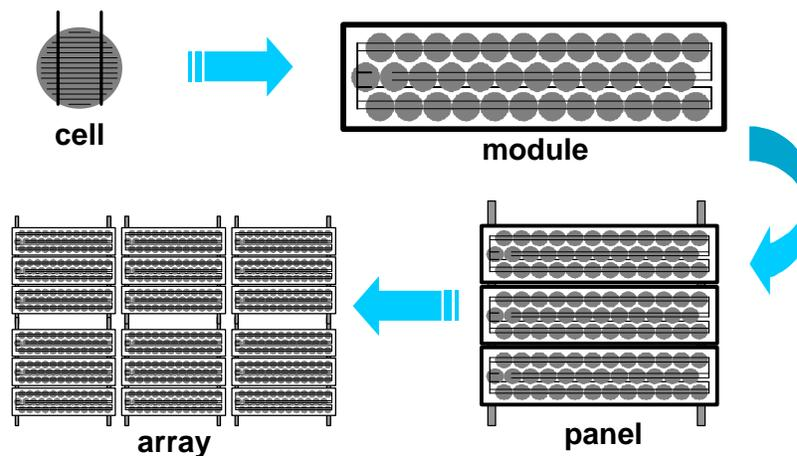

Figure 2. Photovoltaic cells, modules, panels and arrays.
| FIGURE 2. PHOTOVOLTAIC CELLS, MODULES, PANELS AND ARRAYS | 3 |
- A. Photovoltaic cells are connected electrically in series and/or parallel circuits to produce higher voltages and/or currents. Photovoltaic modules consist of PV cell circuits sealed in an environmentally protective laminate, and are the fundamental building block of the complete photovoltaic generating unit. Photovoltaic panels include more than one PV module assembled as a pre-wired, field-installable unit. A photovoltaic array is the complete power-generating unit, consisting of any number of PV modules and panels (Figure 2).